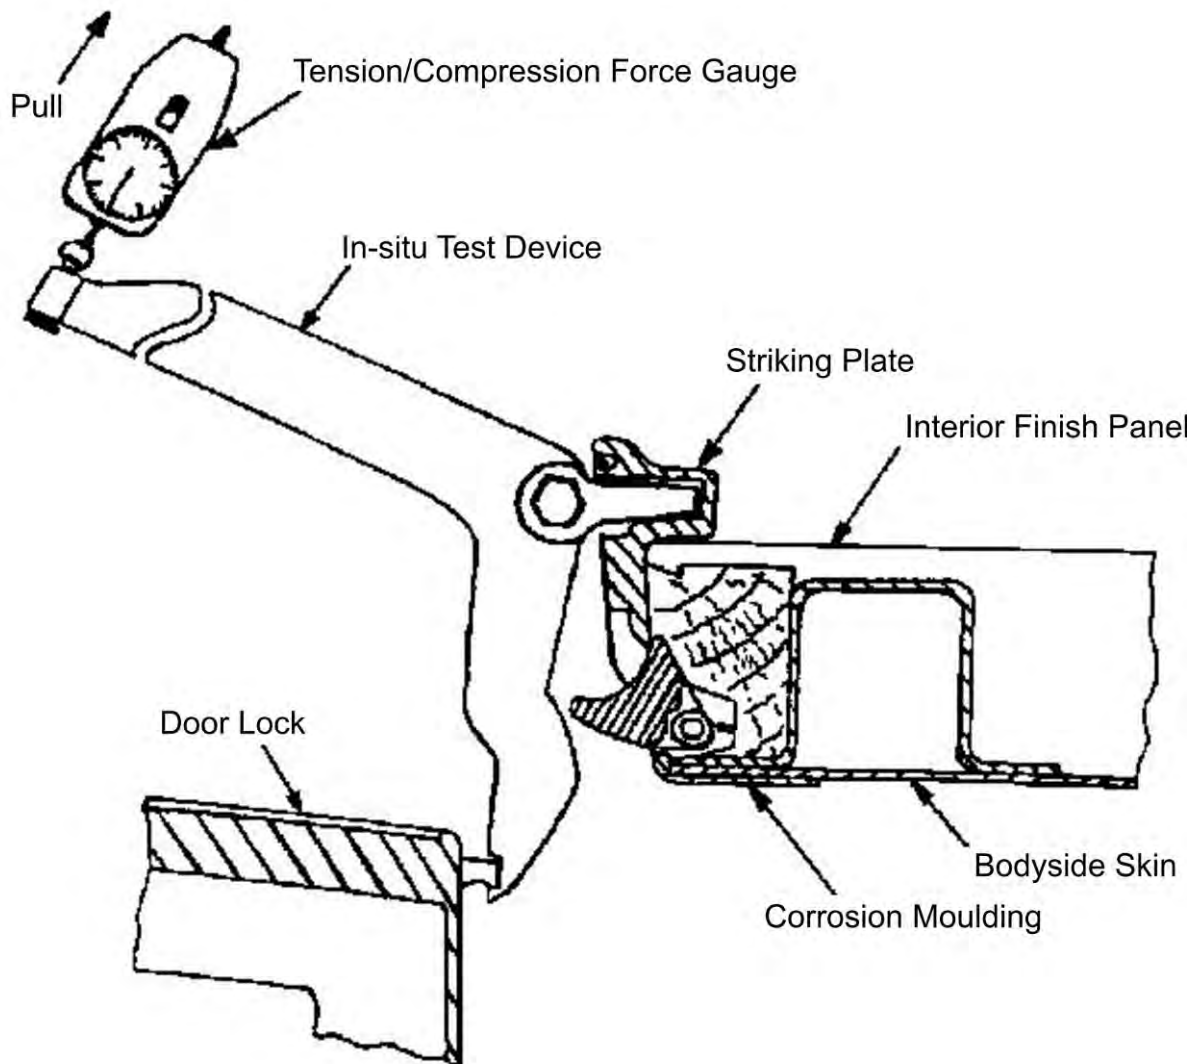

Figure 2: Measuring Lock Bolt Spring Force
- 17.2 Insert the fulcrum of the testing device into the striking plate well and close the door to a position where the notch in the testing device engages with the end of the lock bolt. See Figure 2.